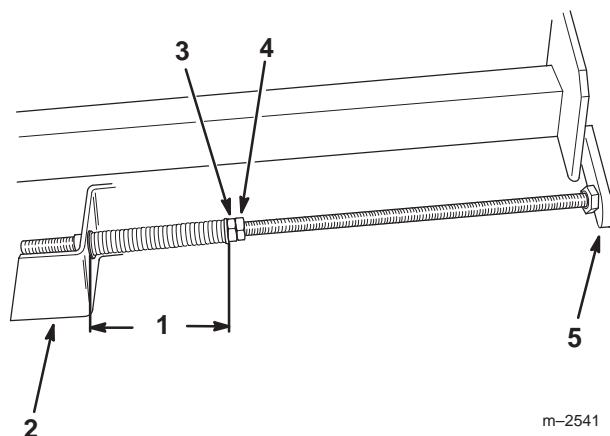

Figure 8
5. Insert the spring end of the adjusting shaft into the hole in the deck mounting bracket. Note that the small end of the bushing fits into the hole in the deck bracket. Insert the locknut end of the adjusting shaft into the carrier frame mounting tab (Fig. 8).
6. To tension the belt, tighten the front jam nut on each adjusting shaft until the springs are compressed to 13 cm (5 inch). Measure the spring compression between the spacer and the bushing (Fig. 8).
7. Tighten the rear jam nuts (Fig. 8).